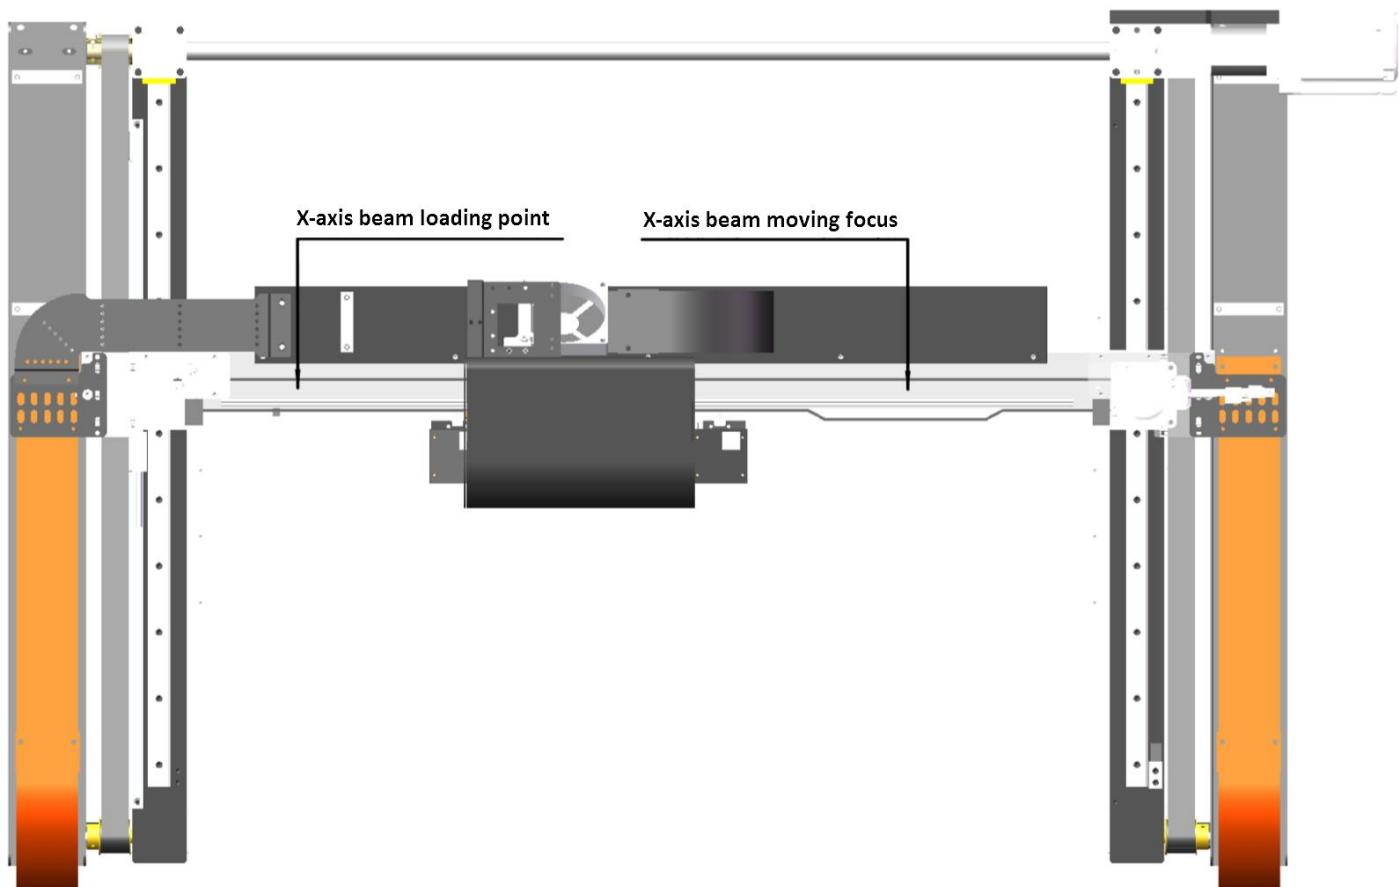

Figure 4-X-axis Beam
**For the risk of accuracy failure, refer to Figure4: When manually moving XY, it must be carried out on the X-axis beam moving point;**